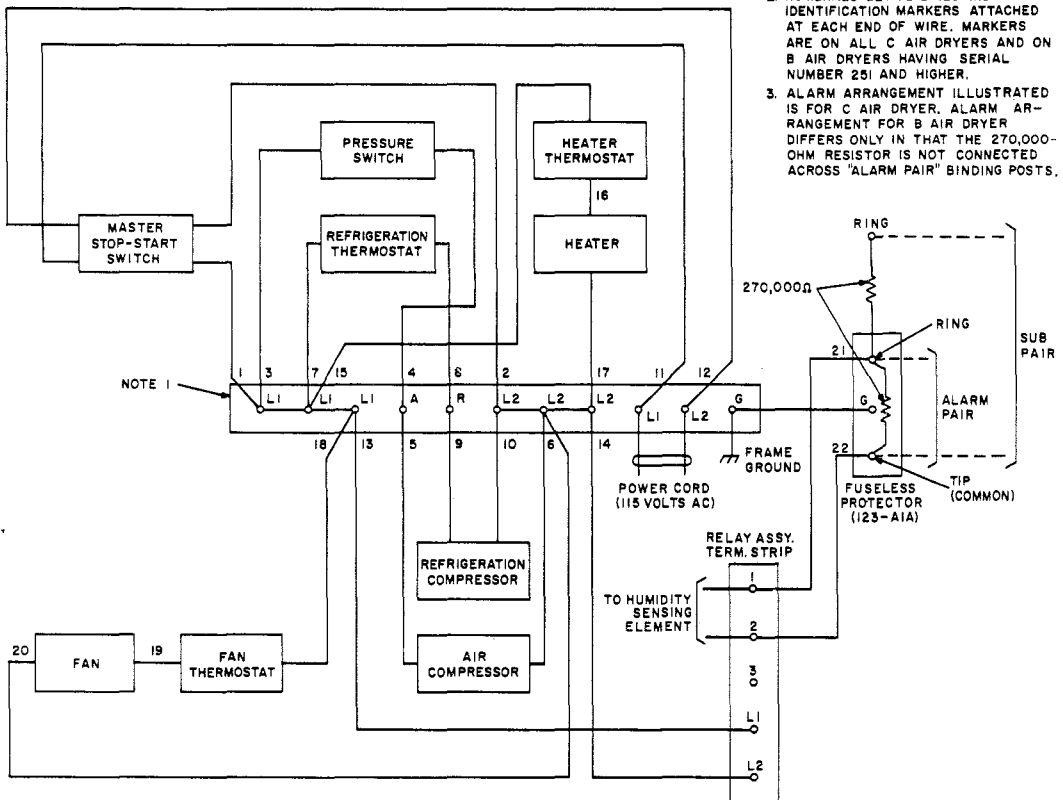

Fig. 3—Schematic of Electrical System
Note: Optionally, this test can be made by disconnecting wire 21 from -1- binding post on the relay assembly terminal strip (see Fig. 3) and connecting the test set to -1- and -2- binding posts. **Rubber gloves must be worn when making this optional test.**
- (1) **Put on rubber gloves.**
- (2) With an approved ac voltmeter, and referring to Fig. 3 and 4, check for 115 volts at the
- (b) With an approved ac voltmeter, and referring to Fig. 3 and 4, check for 115 volts at the incoming power terminations L1 and L2 on the power terminal strip. Check for 115 volts through the master stop-start switch by measuring across the L1 and L2 binding posts on the power terminal strip. Then, as necessary, check the air compressor motor and the pressure switch by testing at the power terminal strip for 115 volts across A and the L1 binding posts, and A and the L2 binding posts, respectively. Replace the air compressor and motor or the pressure switch, if found defective.
- (2) With an approved ac voltmeter, and referring to Fig. 3 and 4, check for 115 volts first across the leads of the fan thermostat and then across the leads of the fan motor to determine which component is defective and must be replaced.
- (3) Remove rubber gloves.
- (2) With an approved ac voltmeter, and referring to Fig. 3 and 4, check for 115 volts first across the leads of the heater thermostat and then across the leads of the heater to determine which component is defective and must be replaced.